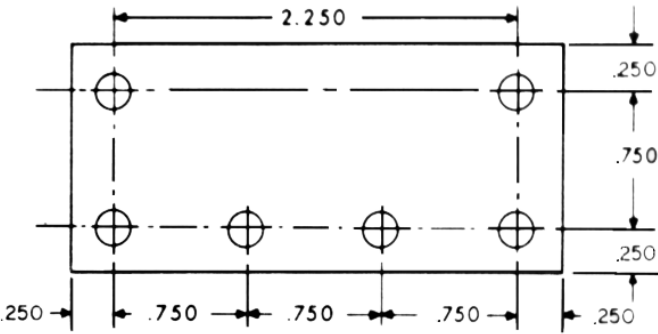

Fig. 6 A workpiece dimensioned in the incremental system mode. (Icon Corporation)
**Incremental program** locations are always given as the distance and direction from the immediately preceding point (Fig. 6). Command codes which tell the machine to move the table, spindle, and knee are explained here using a vertical milling machine as an example: